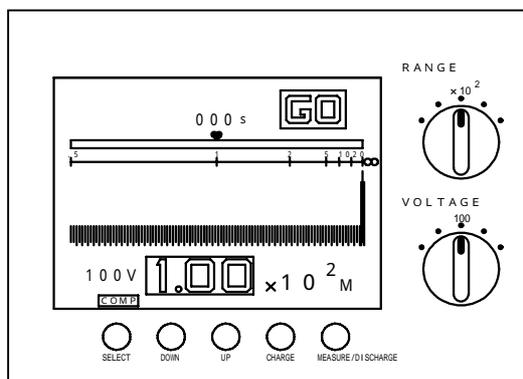

Fig. 6.6.2
- 8) Using the UP and/or DOWN switches, set the judgment level to **100×10^2 M** . (Fig. 6.6.2)